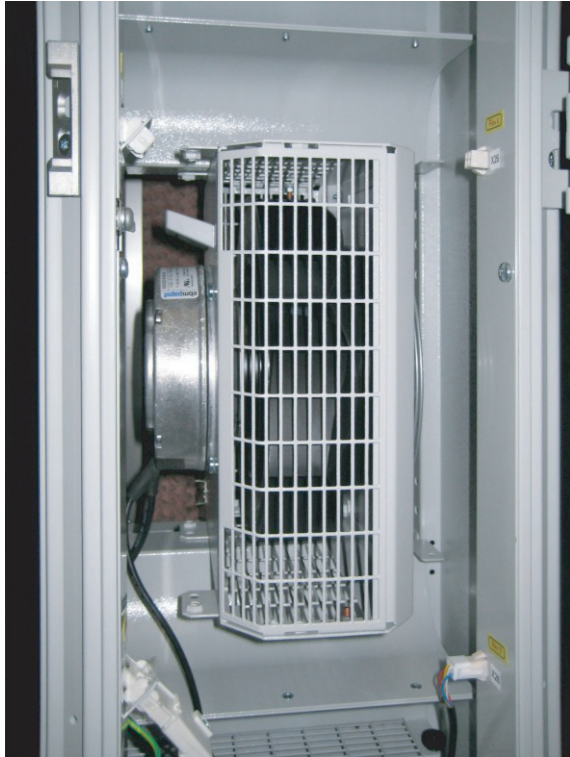

Fig. 39: Rotated fan module in fan tray
- Rotate the fan module in the rack in a clockwise direction by 90° (fig. 39).